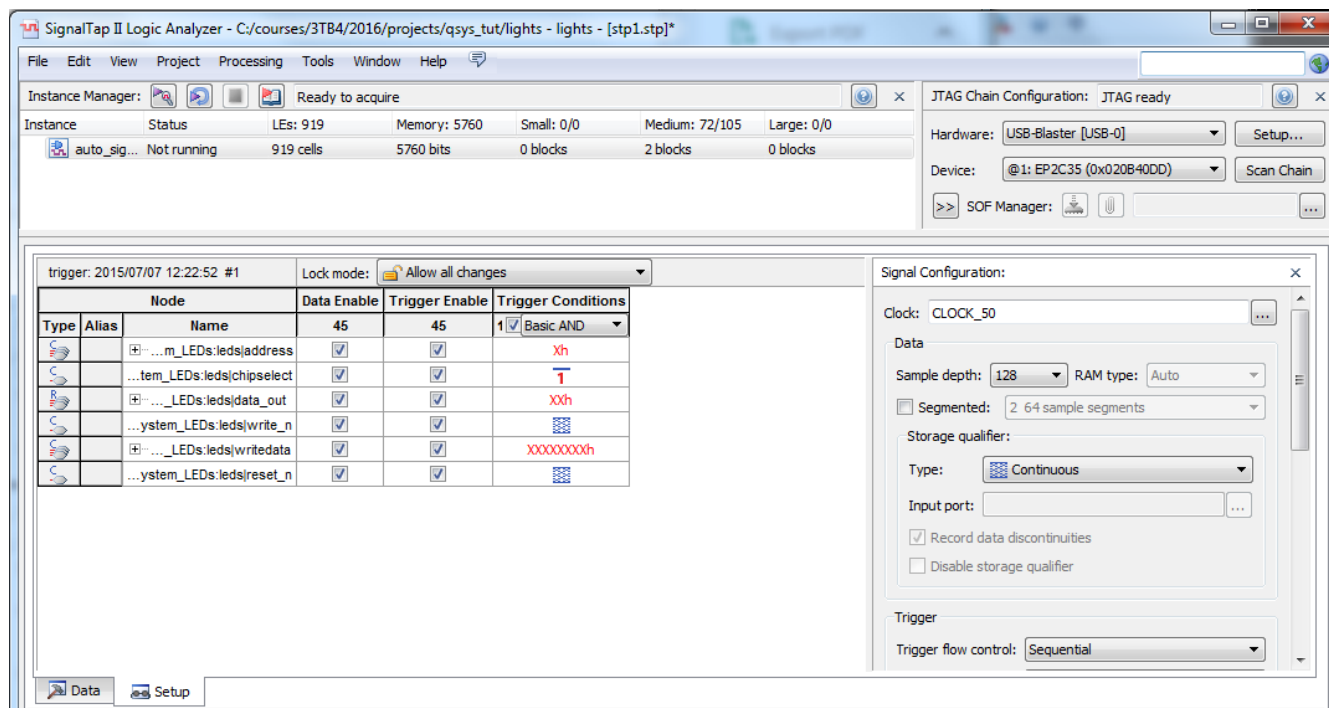

Figure 2: SignalTap Setup
6. Enable triggering for the signal `chipselect`, and set the trigger condition to high. Your setup window will look similar to that shown in Figure 2.